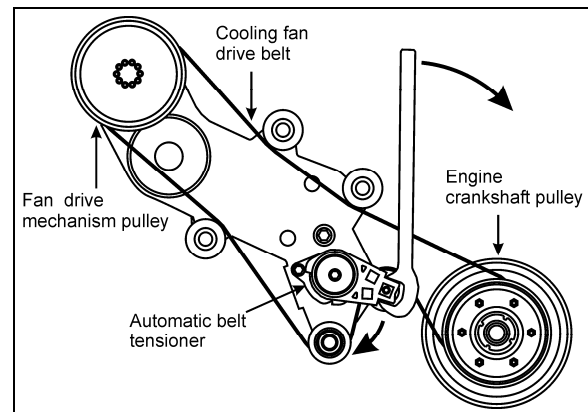

FIGURE 28: DRIVE BELT ROUTING (DDC S60 ENGINE) 05137
1. Wrap the new drive belt around the fan drive mechanism pulley, the idlers and the automatic tensioner idler as shown on figure 28 & 29.
clockwise direction to relieve tension on the belt and hold the tensioner in that position (Fig. 28 & 29).